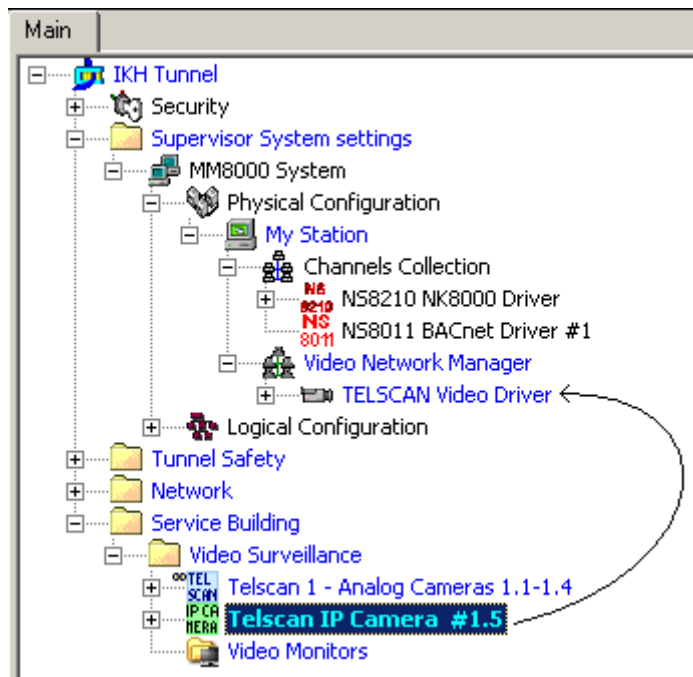

Fig 11 Connecting a Telscan IP Camera to the video driver
3. Drag and drop the TELSCAN/IP camera to the driver (Fig 11).